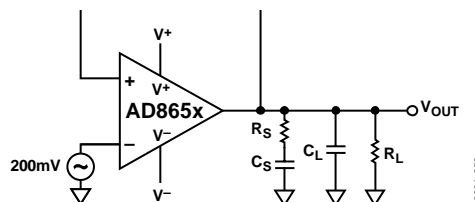

Figure 57. Snubber Network
- Another way to stabilize an op amp driving a large capacitive load is to use a snubber network, as shown in Figure 57. Because there is not any isolation resistor in the signal path, this method has the significant advantage of not reducing the output swing. The exact values of R_S and C_S are derived experimentally. In Figure 57, an optimum R_S and C_S combination for a capacitive load drive ranging from 50 pF to 1 nF was chosen. For this, $R_S = 3 \Omega$ and $C_S = 10 \text{ nF}$ were chosen.